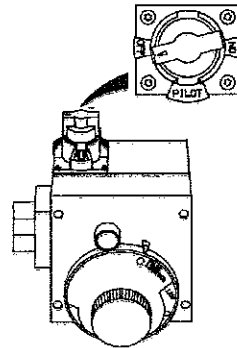
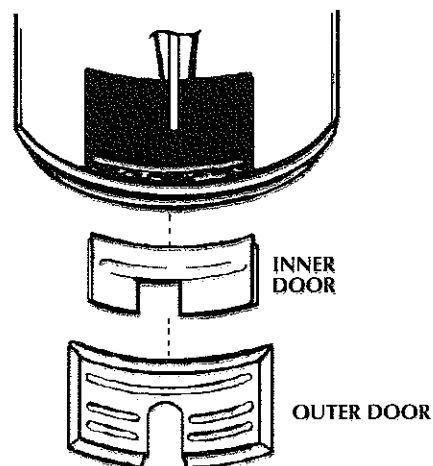

Figure 6
Figure 9
4. Turn gas control knob clockwise (↻) to "OFF" position. Knob cannot be turned from "PILOT" to "OFF" unless knob is depressed slightly. **DO NOT FORCE.** (Figure 6)
5. Wait five (5) minutes to clear out any gas. If you then smell gas, STOP! Follow "B" in the safety information above on this label. If you don't smell gas, go to the next step.
6. Remove (or open) inner door located below the gas control unit. (Figure 9)
9. Push in control knob all the way and hold down. Immediately light the pilot with a match. Continue to hold control knob in for about one (1) minute after the pilot is lit. Release knob and it will pop back up. Pilot should remain lit. If it goes out, repeat steps 3 through 8.
- If the pilot will not stay lit after several tries, depress and turn the gas control knob clockwise (↻) to "OFF" and call your service technician or gas supplier. (Figure 6)
10. Replace (or close) inner door. Replace outer door if door does not cover gas control on/off knob or temperature adjustment knob. (Figure 9)
2. Turn gas control knob clockwise (↻) to "OFF" position. Knob cannot be turned from "PILOT" to "OFF" unless knob is depressed slightly. **DO NOT FORCE.** (Figure 6)